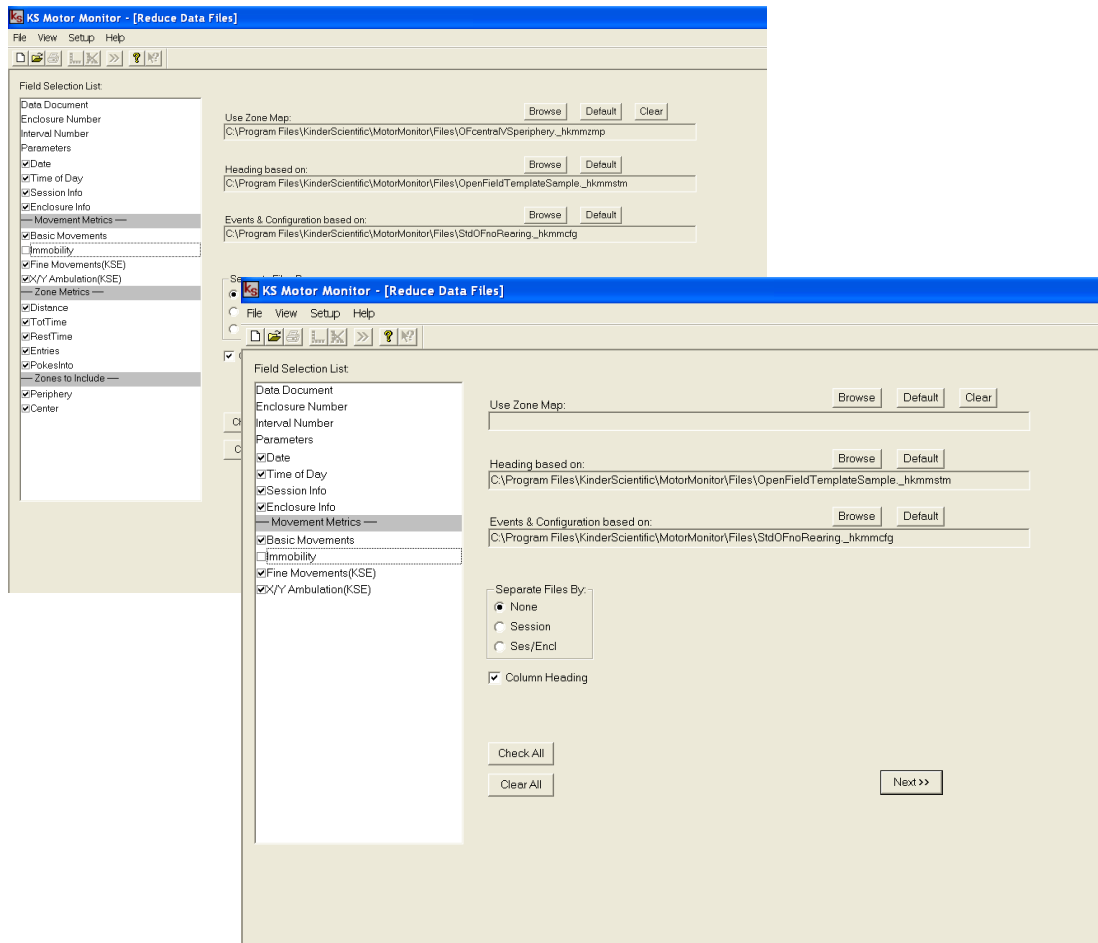

Figure 2-16. Reduce Fields Screen With and Without a Selected Zone Map
2.2.2. Understanding Reduced Files and Zone Maps There are two measurement types available for data reduction. These are Movement Metrics and Zone Metrics. Zone metrics are the result of an optional zone map included with the collected data. A zone map is not required for data reduction and, if not included the Zone Metrics fields will not appear on the screen. This is shown in Figure 2-16.